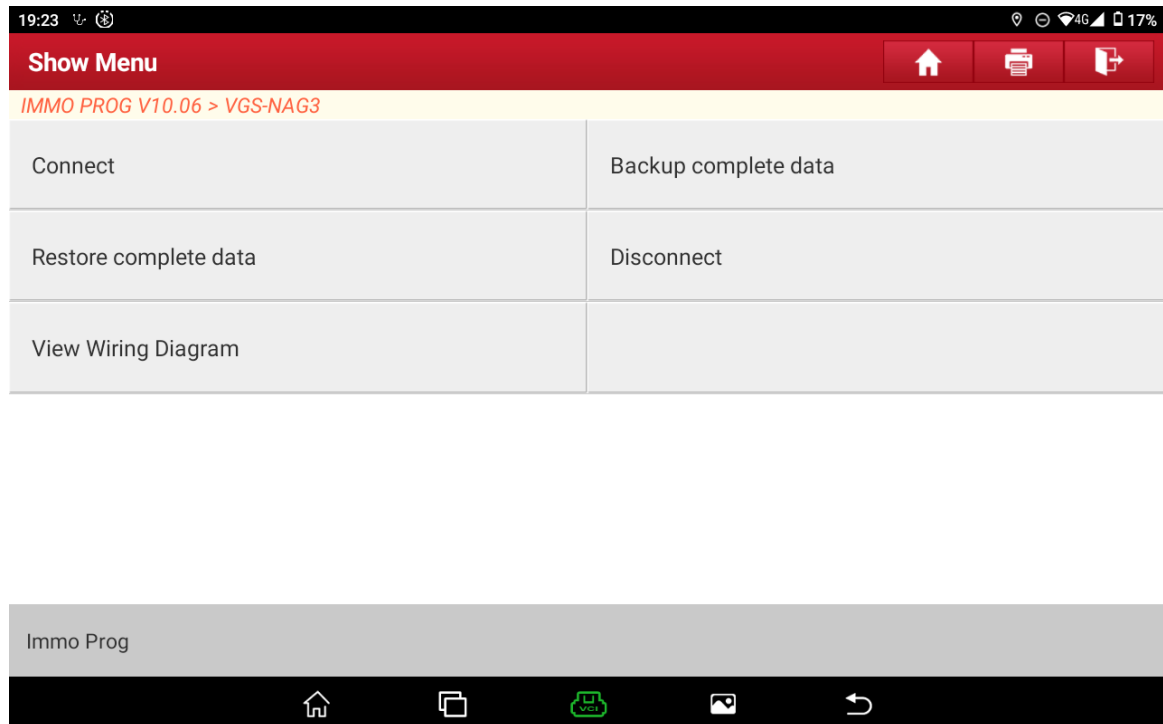
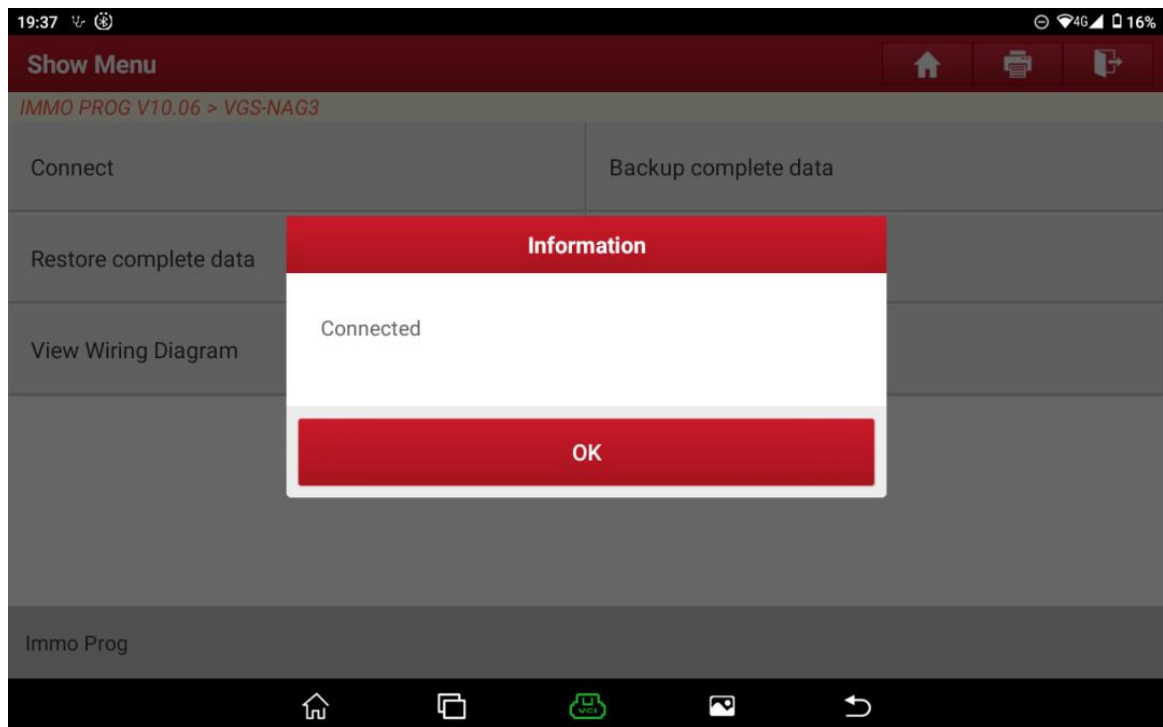

Figure 6
Figure 7
- Before performing other functional operations, execute the [Connect] function first to verify whether the gearbox and the programmer are connected, as shown in Figure 6 and Figure 7.